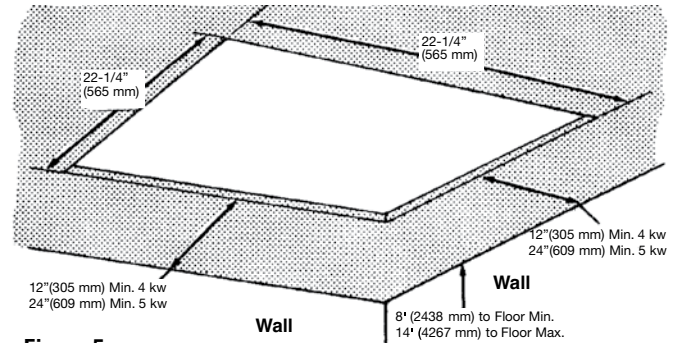

**Figure 4**
- Position the heater in the T-bar grid (Figure 4) and secure as required. See Warning No. 9.